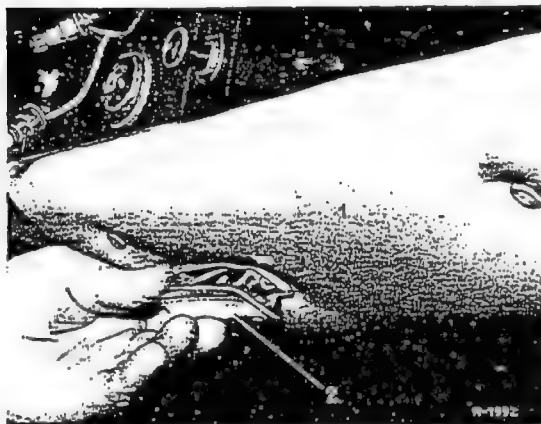

Fig. 83-2/1
3. Take out the reading light (2) from the center padding (1) and disconnect the cable (Fig. 83-2/1).